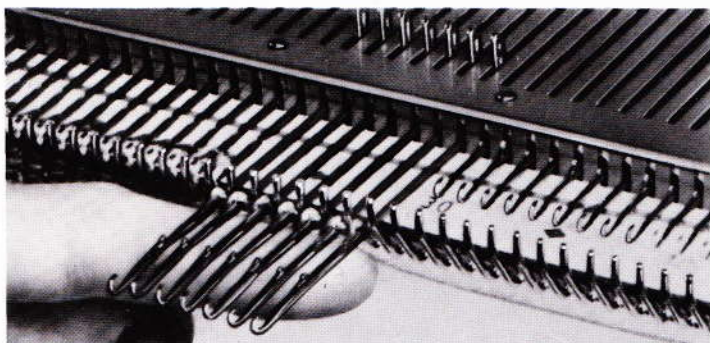

Fig. 95
- Gradually push back the loops thus formed against the needle bed teeth with the left forefinger (fig. 95).